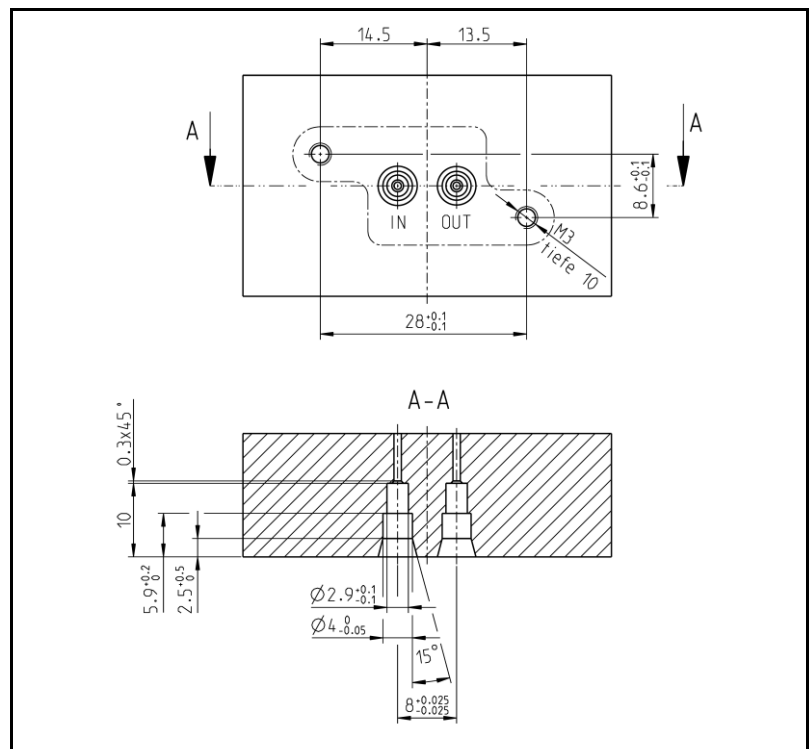

Fig. 6: Connection diagram
- The flange is connected to the connecting plate as shown in the connection diagram (Fig. 6).